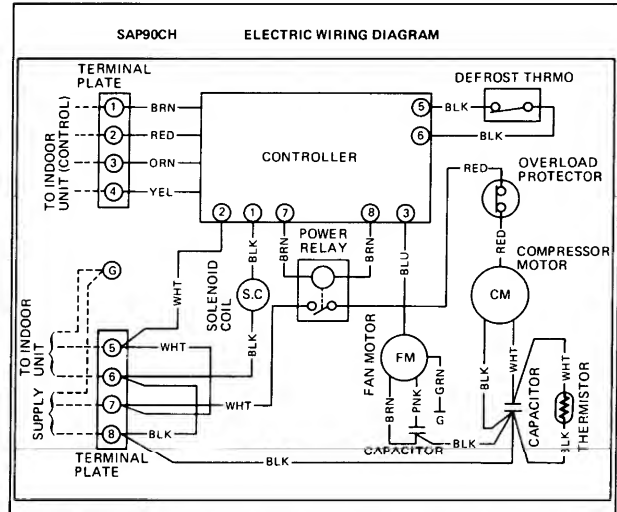

Fig. E-5H
Remove the blue (BLU) lead wire from the terminal ③, then brown (BRN) and pink (PNK) lead wires from the fan motor capacitor respectively as indicated in the wiring diagram (Fig. E-5H).